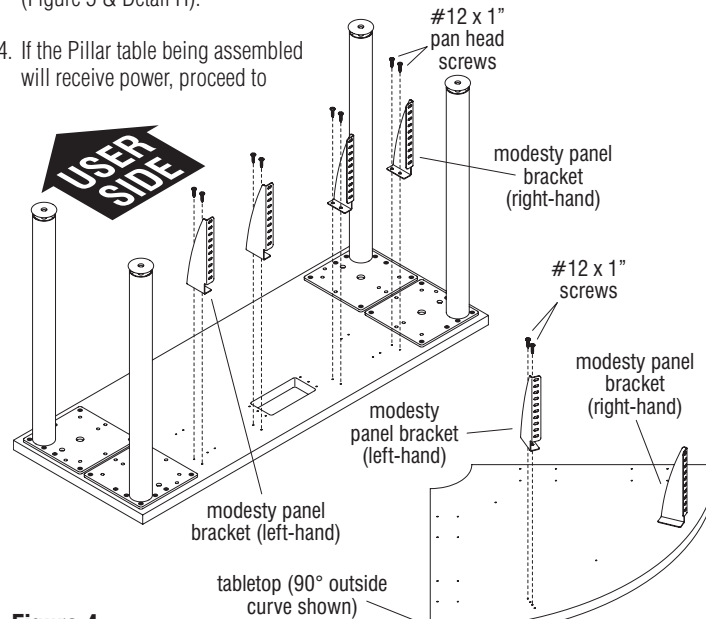

Figure 4
- Position one left-hand modesty panel bracket over the appropriate pre-drilled holes at the underside of the tabletop (Figure 4). If the Pillar tabletop is a 90° outside curve, use the first and third mounting holes from the non-user side of the table to secure the brackets to the tabletop as illustrated in Detail F. Rectangular tabletops only have one set of mounting holes for the brackets as illustrated in Detail G. Secure the bracket to tabletop using two #12 x 1" pan head screws. Repeat this step to secure the remaining brackets to the tabletops (Figure 4, Details F & G).